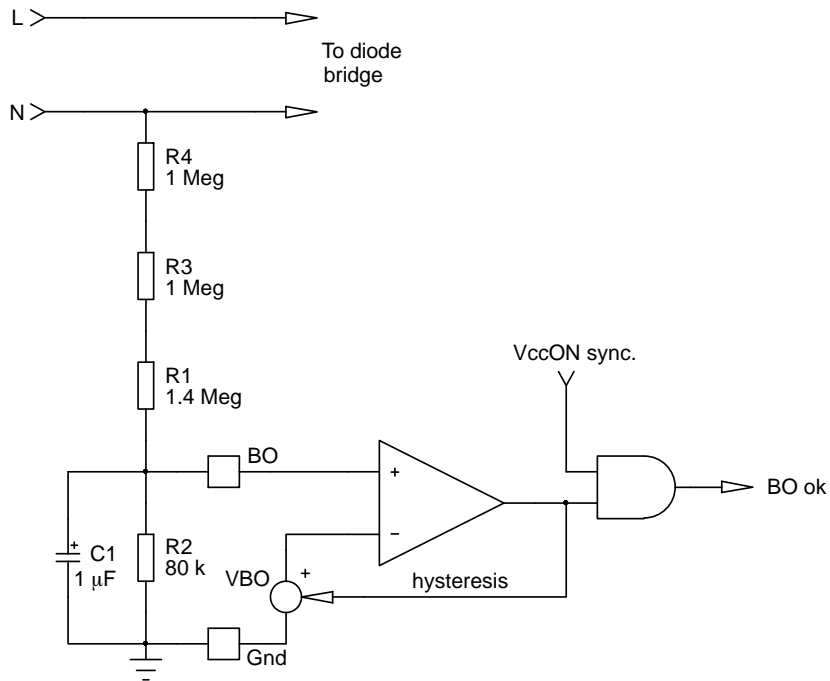

Figure 52. A simple comparator monitors the input voltage via a single pin. When this voltage is too low, the pulses are stopped and the VCC hiccups.
Brown-out (BO) is a means to protect the converter against an erratic behavior that can occur at the lowest input voltage level. By safely stopping the output pulses when the mains is below a predetermined value, the converter prevents thermal runaway, greatly improving its robustness. Brown-out protection is another way to avoid an erratic hiccup mode when too low of an input voltage limits the power delivery. Some applications, such as printer power supplies, forbid this kind of operations and impose a clean stop. In that case, brown-out detection/protection is the way to go. Figure 52 shows a simplified implementation in the controller.